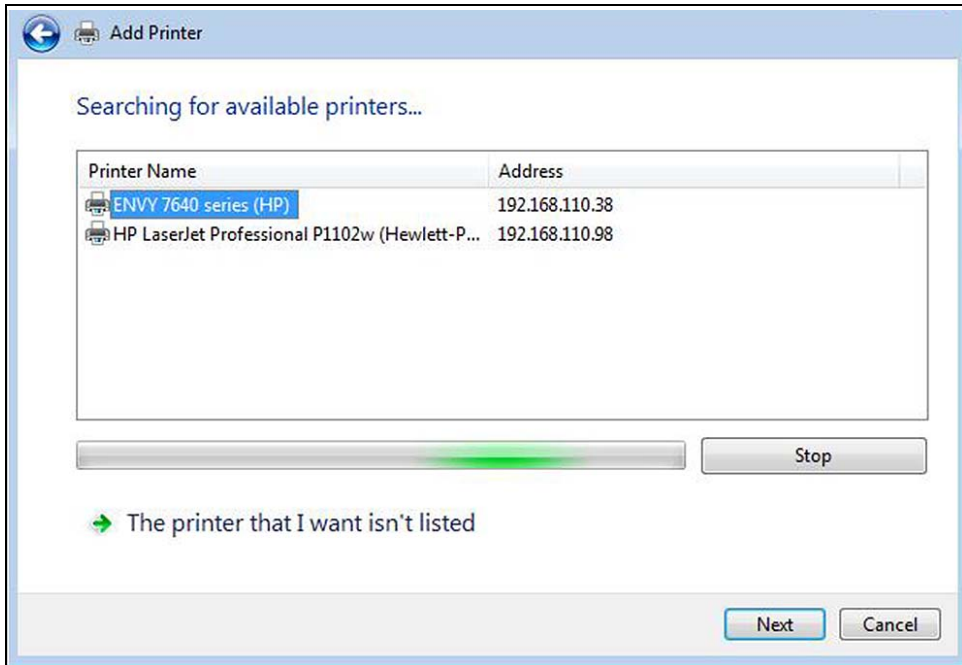

Figure 1-17
7. Follow the onscreen instructions to search, locate and install your printer. Windows automatically searches for available printers on the network (Figure 1-17).
9. Follow the onscreen instructions to search, locate and install your printer. Windows automatically searches for available printers on the network (Figure 1-17).